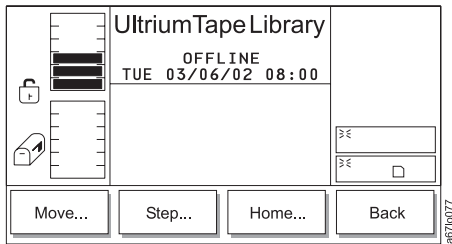

Figure 4-169. Picker Submenu
4. Press the button below the **Picker** softkey. The Picker Submenu displays (see Figure 4-169 on page 4-95).